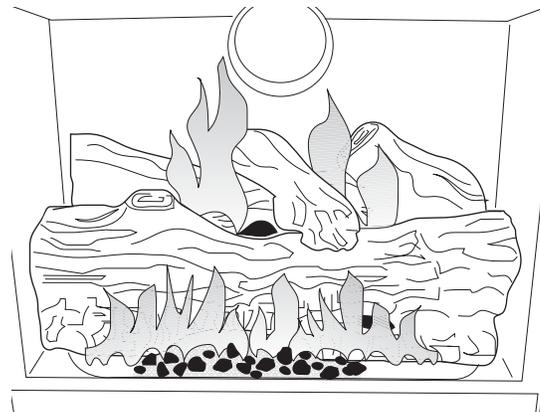

Figure 26. Flame appearance on the "high" setting after approximately 15 to 20 minutes burning.
3. BURNER ADJUSTMENT: This stove is equipped with a variable gas control valve that allows easy adjustment of the flame height appearance and heat output. To adjust the flame between the HI and LOW setting, rotate the HI/LOW knob, located in the center of the valve face. **Flame height will adjust approximately 1.0" to 1.5" between the LOW and HIGH settings. See fig. 26.**